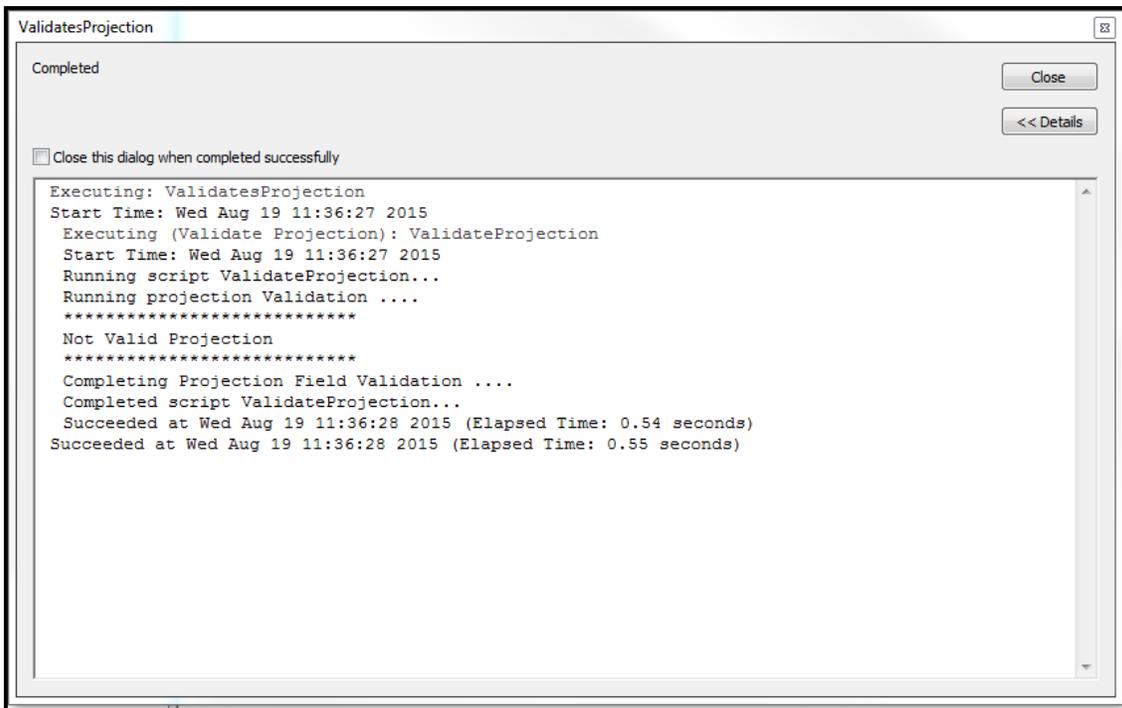

Figure 95: The Validate Projection Completed Dialog Box
4. If the shapefile passes validation, a dialog box indicating the validation process has completed appears, as depicted in Figure 95 below.